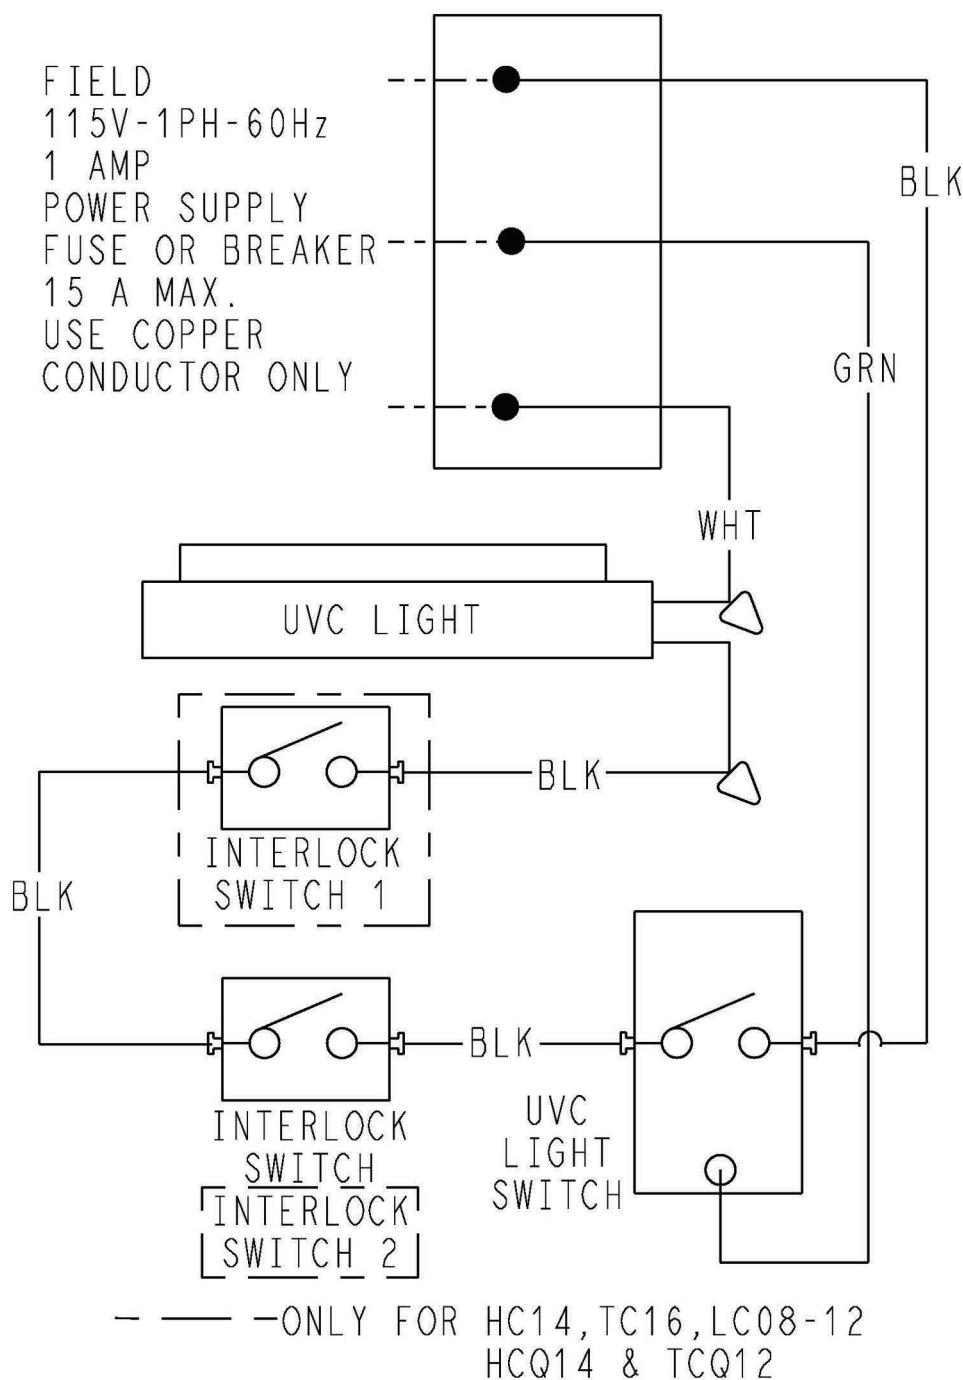

Fig. 19 — UV-C Section Wiring Diagram
4. Turn off power when proper operation is verified. If lamp did not glow, check switch box wiring, safety panel interlock switches and lamp. (See Fig. 19.)
5. Turn on the switch box, close unit access panel and return all power to the unit. (See Fig. 19.)